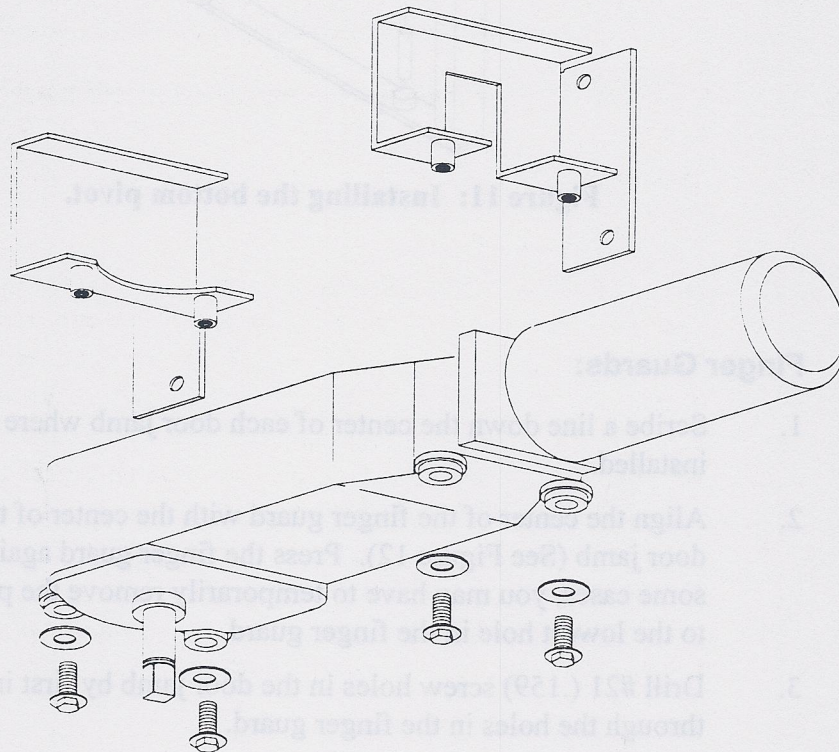

Figure 10: Mounting the operator(s).
Mount the operators to the brackets using four (4) 5/16-18 hex head bolts provided (See Figure 10). Attach the operator brackets to the square-nuts in the back of the header using four (4) 1/4-20 hex head bolts provided.